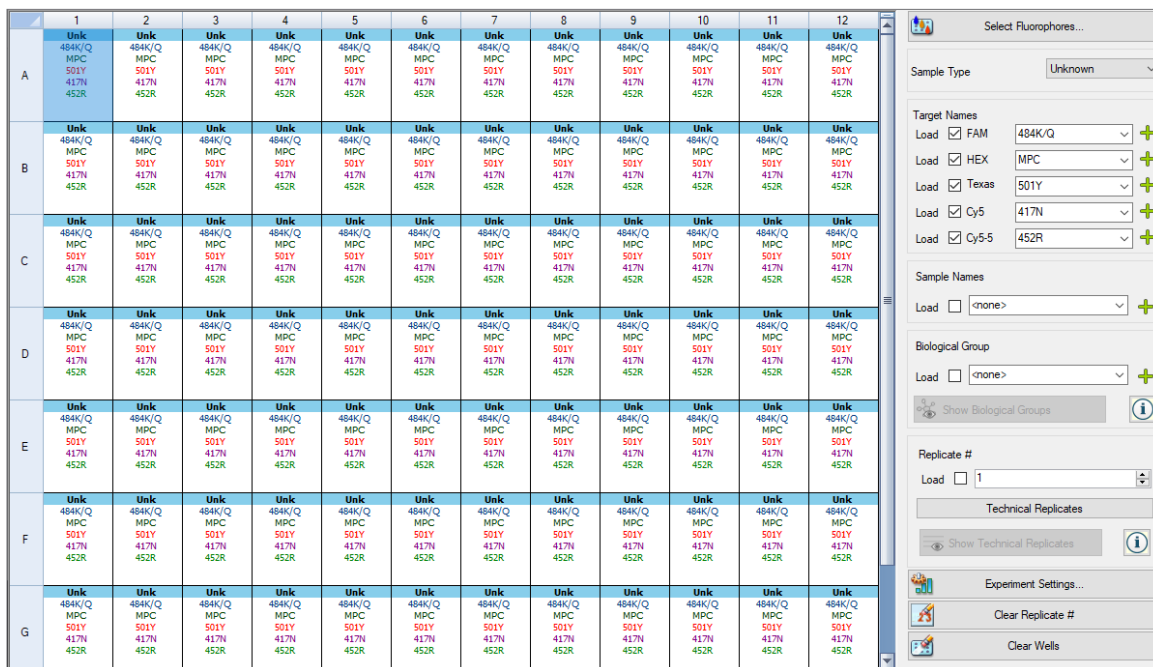

Fig. 3. Plate layout in CFX Maestro Software Plate Editor.
- Click **OK** to exit the Plate Editor (Figure 3).